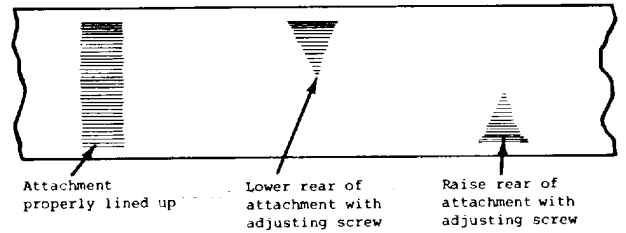

Fig. 9I. Wheel marks on surface of test block.
3. Feed the rotating wheel down slowly until it contacts the work, then "read" the witness marks on the surface of the work. (See Fig. 9I).